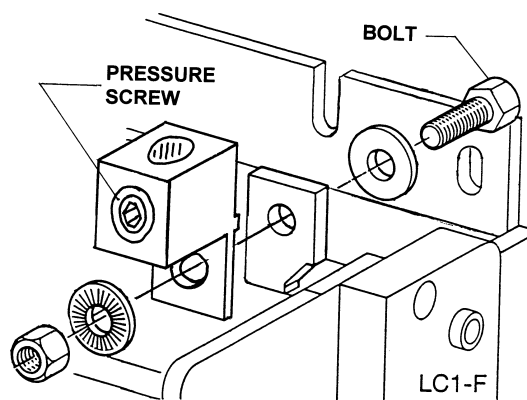

Figure 1 Lug and Washer Orientation
1. Using the hardware provided, attach the lugs as shown in Figure 1. Note the orientation of the washers.